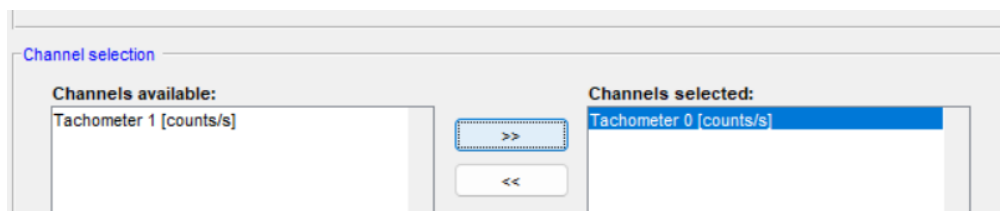

Figure 3. Reading servo tachometer
10. Double click on that block, and on the pop-up menu, click on the three dots next to Channels. Select Tachometer 0 on channels available and use the arrows >> to move it into channels selected. This will make sure you are reading the tachometer from the servo. This should look like figure 3. Click OK on both dialogs to close them.